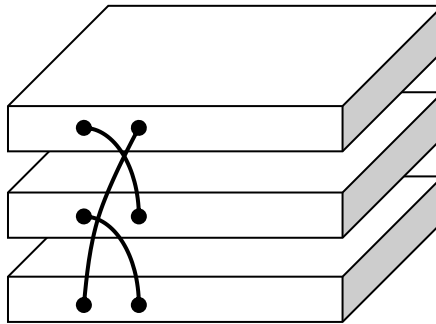

Figure 1-1 Stacking Multiple Switches in a Ring Topology
- ✧ We highly recommend that you connect the stack in a ring topology for resiliency. Cascading stack members without the redundant stacking connection may cause downtime due to any single point of failure. See Figure 1-1.